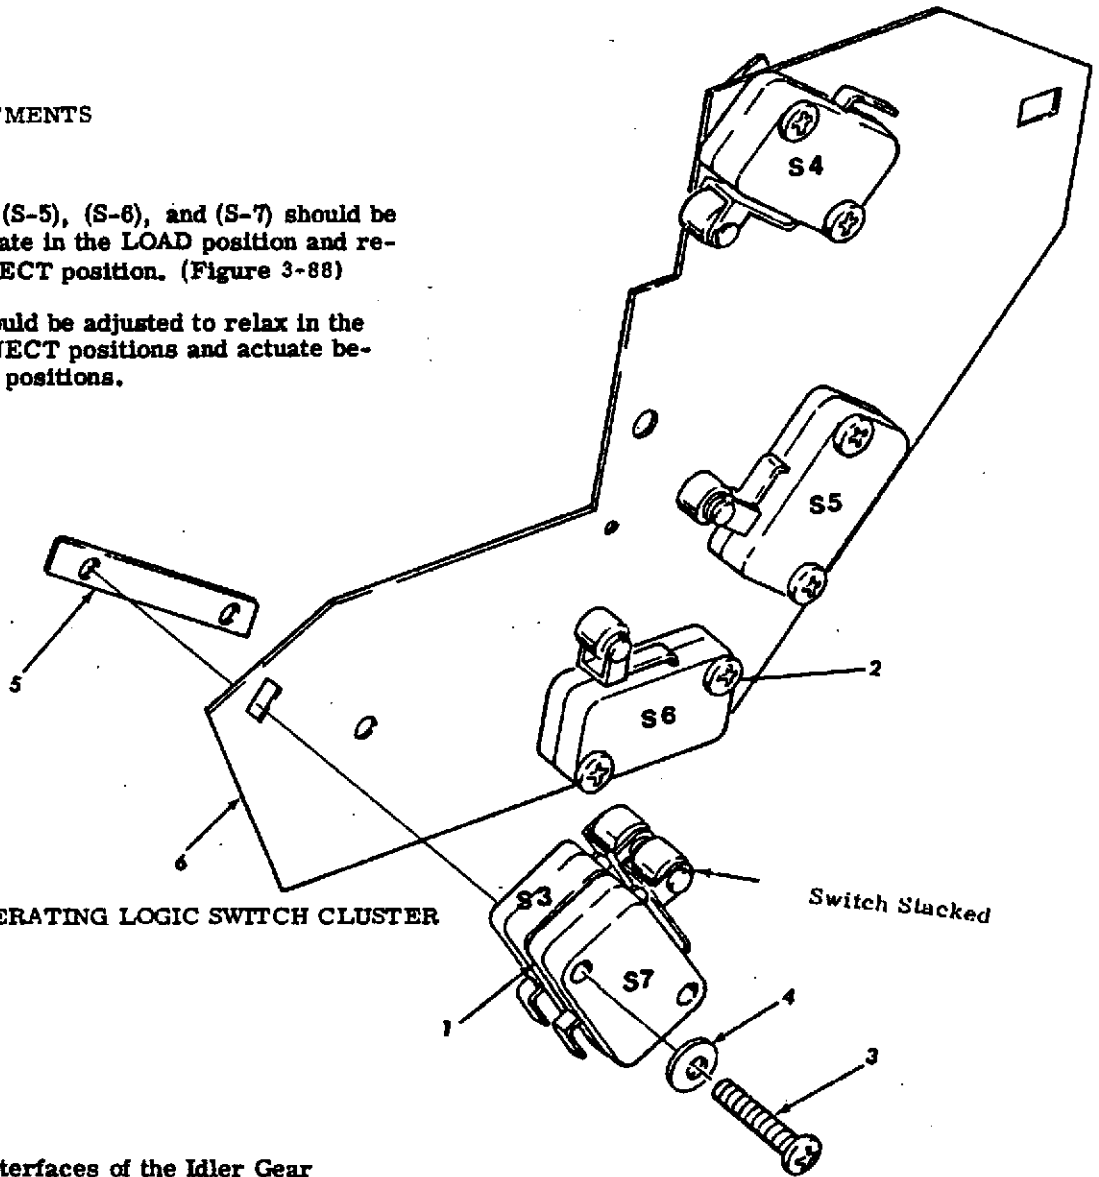

Figure 3-88. OPERATING LOGIC SWITCH CLUSTER
- a. Switches (S-3), (S-5), (S-6), and (S-7) should be adjusted to actuate in the LOAD position and relax in the PROJECT position. (Figure 3-88)